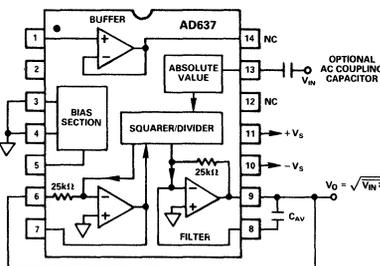

Figure 2. Standard rms Connection
- ¹Accuracy specified 0-7V rms dc with AD637 connected as shown in Figure 2.
The AD637 is simple to connect for a majority of rms measurements. In the standard rms connection shown in Figure 2, only a single external capacitor is required to set the averaging time constant. In this configuration, the AD637 will compute the true rms of any input signal. An averaging error, the magnitude of which will be dependent on the value of the averaging capacitor, will be present at low frequencies. For example, if the filter capacitor C_{AV} , is 4 μ F this error will be 0.1% at 10Hz and increases to 1% at 3Hz. If it is desired to measure only ac signals the AD637 can be ac coupled through the addition of a nonpolar capacitor in series with the input as shown in Figure 2.